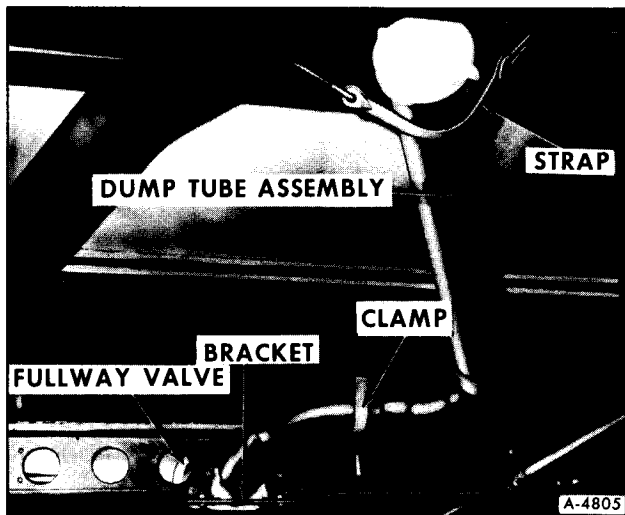

Figure 4—Dump Tube and Valve Assembly
2. Position valve at holding tank and assemble enough to loosely install the strap (figure 4). Tighten fullway valve to tank screws.